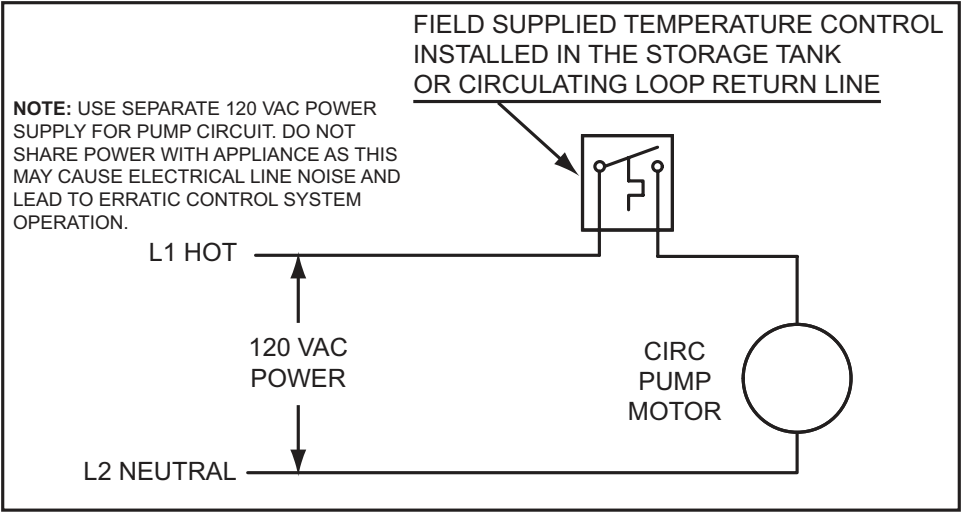

Figure 65. Recirculating Loop with Storage Tank or Building Recirculation
6. If a pump is being installed between a water heater and storage tank or on a building recirculation loop wire according to *Figure 65* (page 71).
- 6. If a pump is being installed between a water heater and storage tank or on a building recirculation loop wire according to *Figure 65* (page 71).